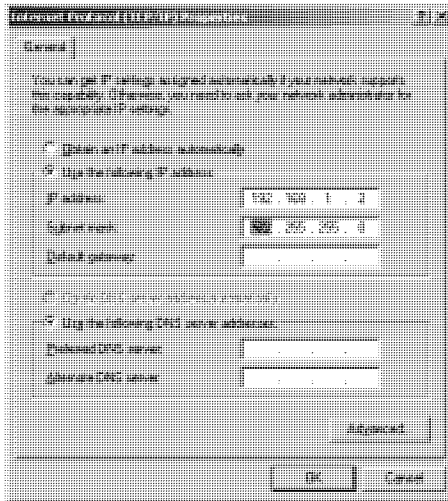

Figure 5: Internet Protocol (TCP/IP) Properties Window
5. Select **Use the following IP Address¹**, and fill in the details as shown in Figure 5.